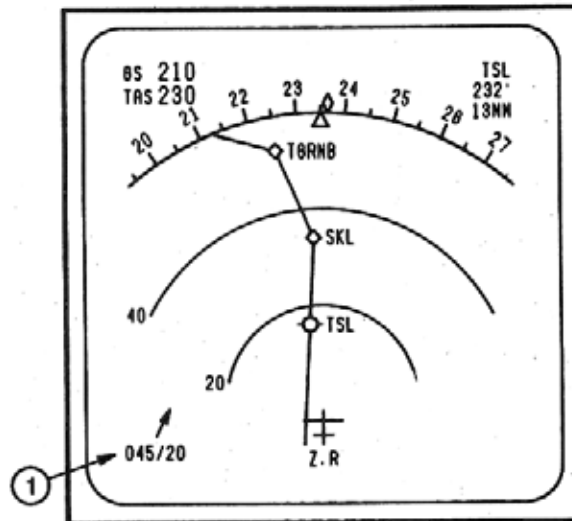
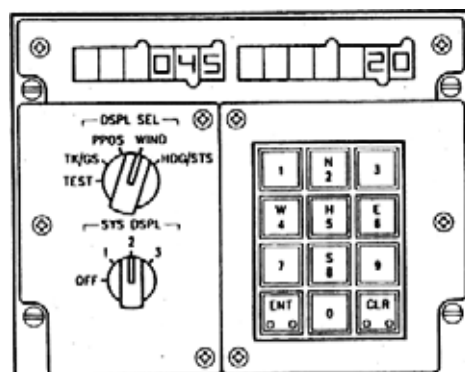

Figure 2-104
Figure 2-105
Proper format for these entries may be found in APPENDIX B, pages B-10 and B-11. Basically, if wind alone is input, the value must be preceded by a slash /. PPOS wind values are available on the ND (1), Figure 2-104). and the ISDU (2), Figure 2-105). (See Section 3.1.3.5.4, WIND/TEMPERATURE ENTRY, page 3-64.)